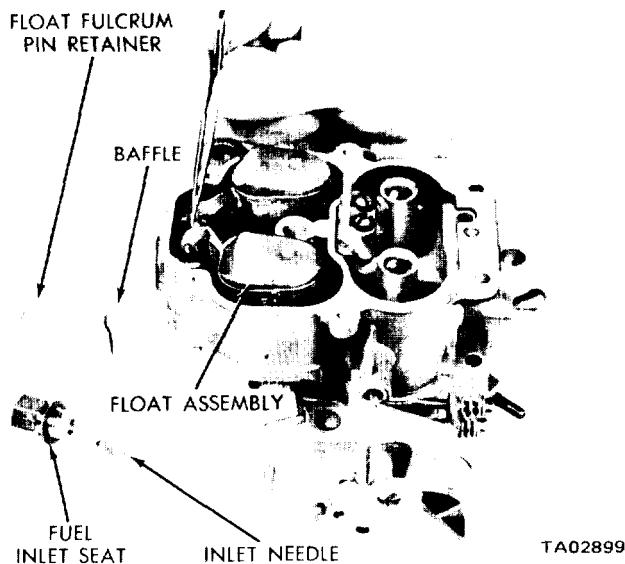

Figure 12-6. Removing or Installing the Float Assembly.
(13) Lift out the float retainer and baffle. Remove the floats and pin (figure 12-6).